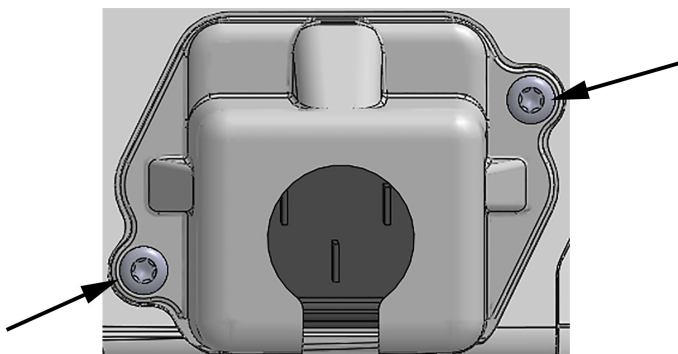

Figure 3-5: HemoSphere Vita monitor power entry cover - screw locations
1. If the power entry cover is already installed, remove the two screws (Figure 3-5 on page 48) that attach the power entry cover to the rear panel of the monitor.